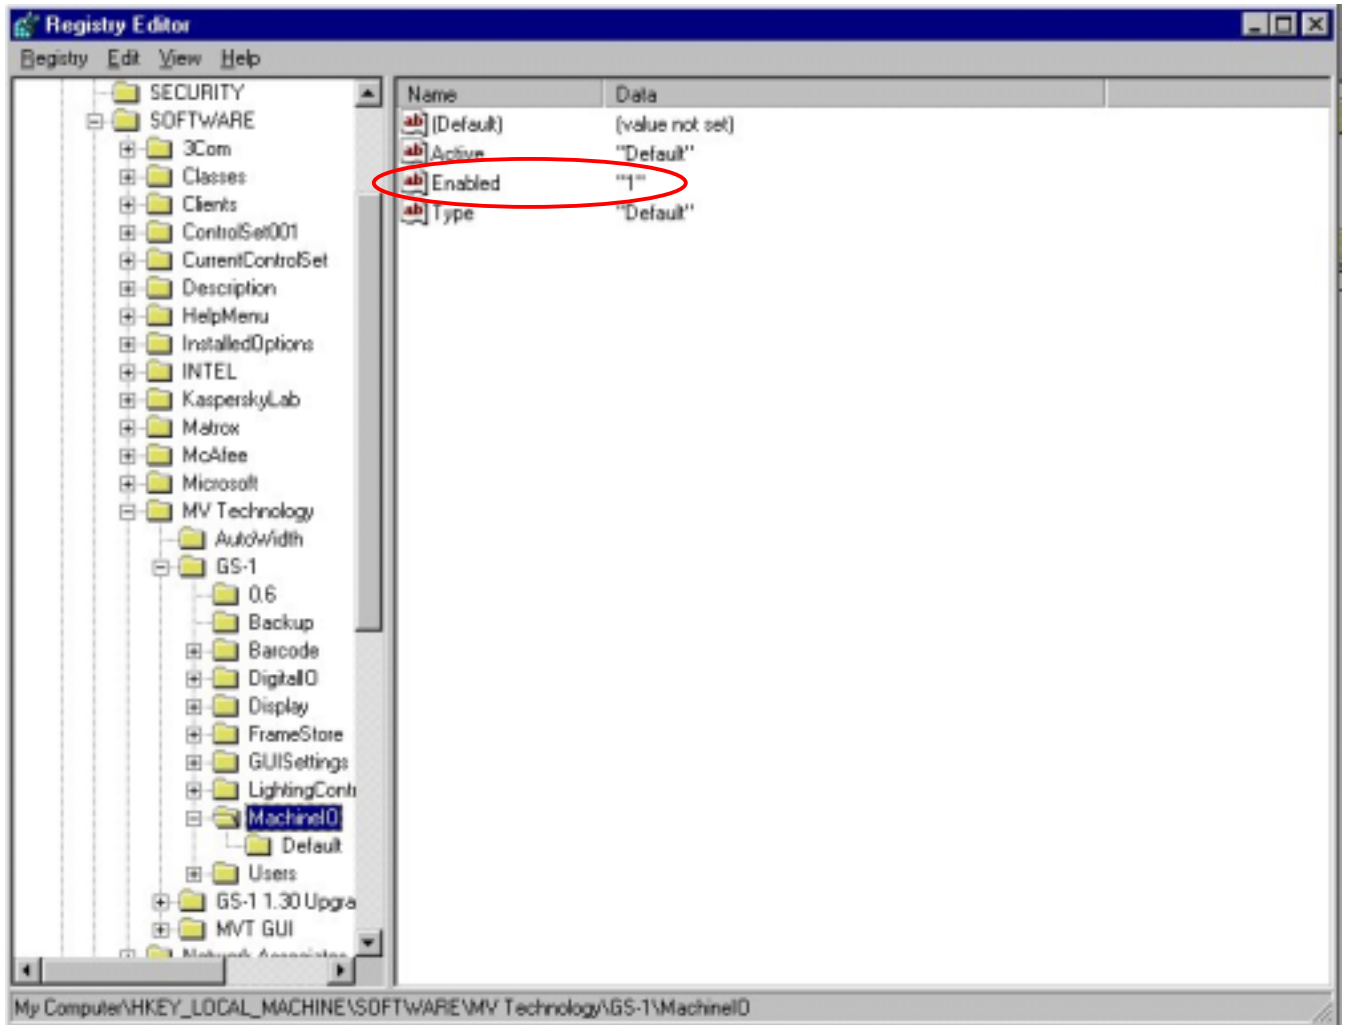

Figure 4-5 Machine IO Registry Editor
4. Go to **\HKEY_LOCAL_MACHINE\SOFTWARE\MV TECHNOLOGY\GS-1\MachineIO** as shown in Figure 4-5:
- Double-click the '**Enabled**' icon as shown in Figure 4-5.